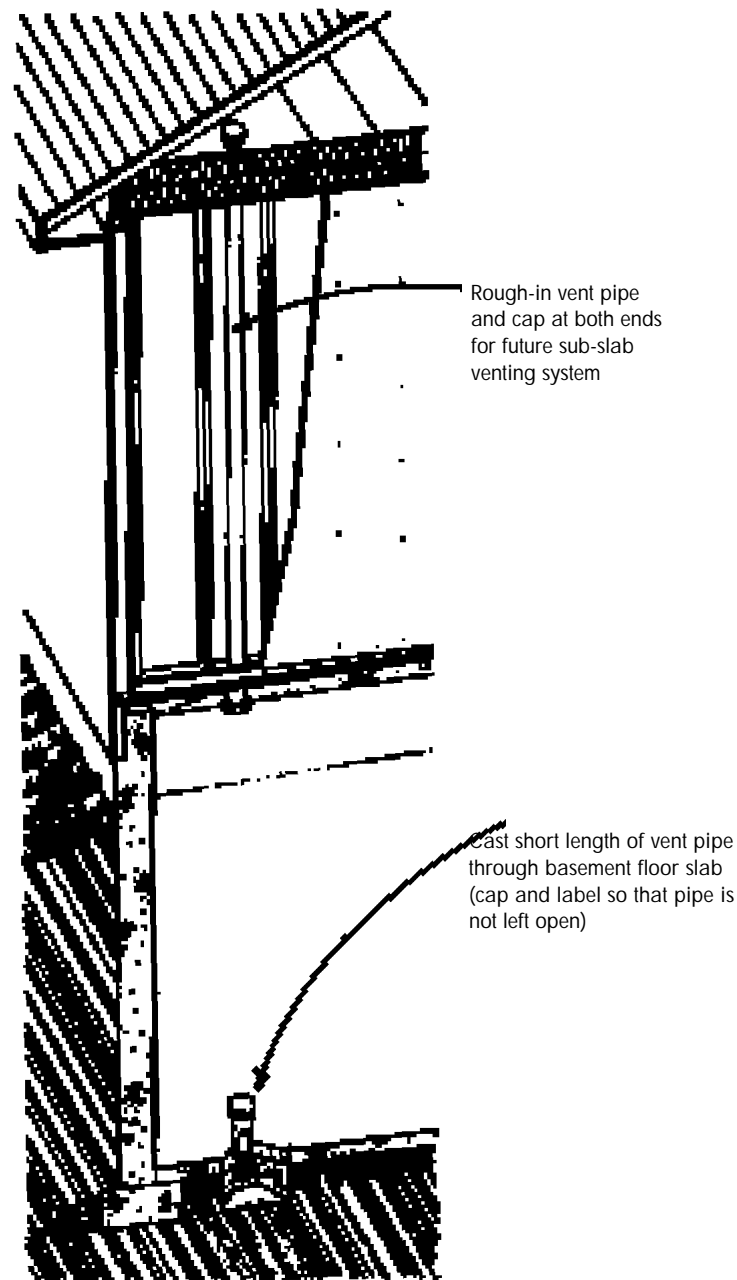

Figure 21: Making provisions for active soil depressurization
- A short length of PVC pipe of at least 100 mm (4 in.) diameter should be cast into the floor slab (see **figure 21, page 29**). The pipe should be capped and labelled so that it is not left open. To aid in completing the system after construction, run another section of pipe from the basement to 450 mm (18 in.) above the ceiling line in the attic. This pipe should be capped at both ends.